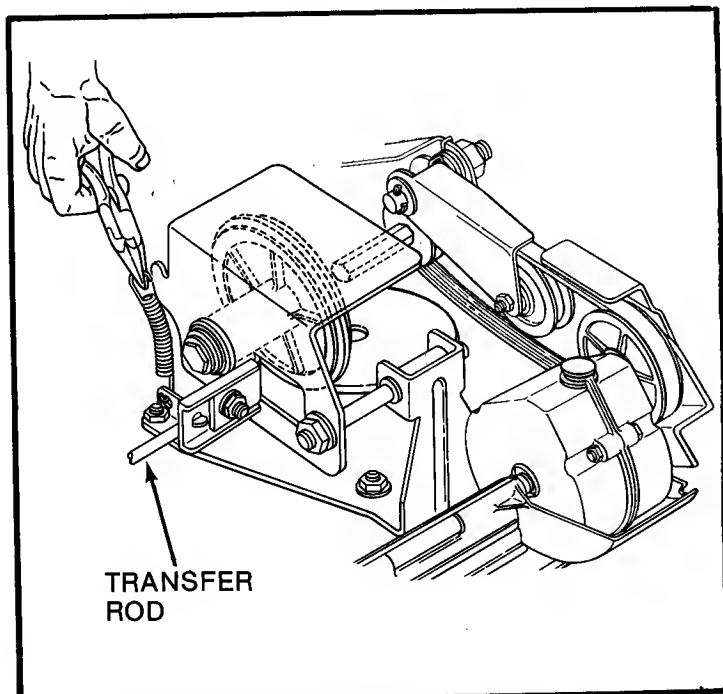
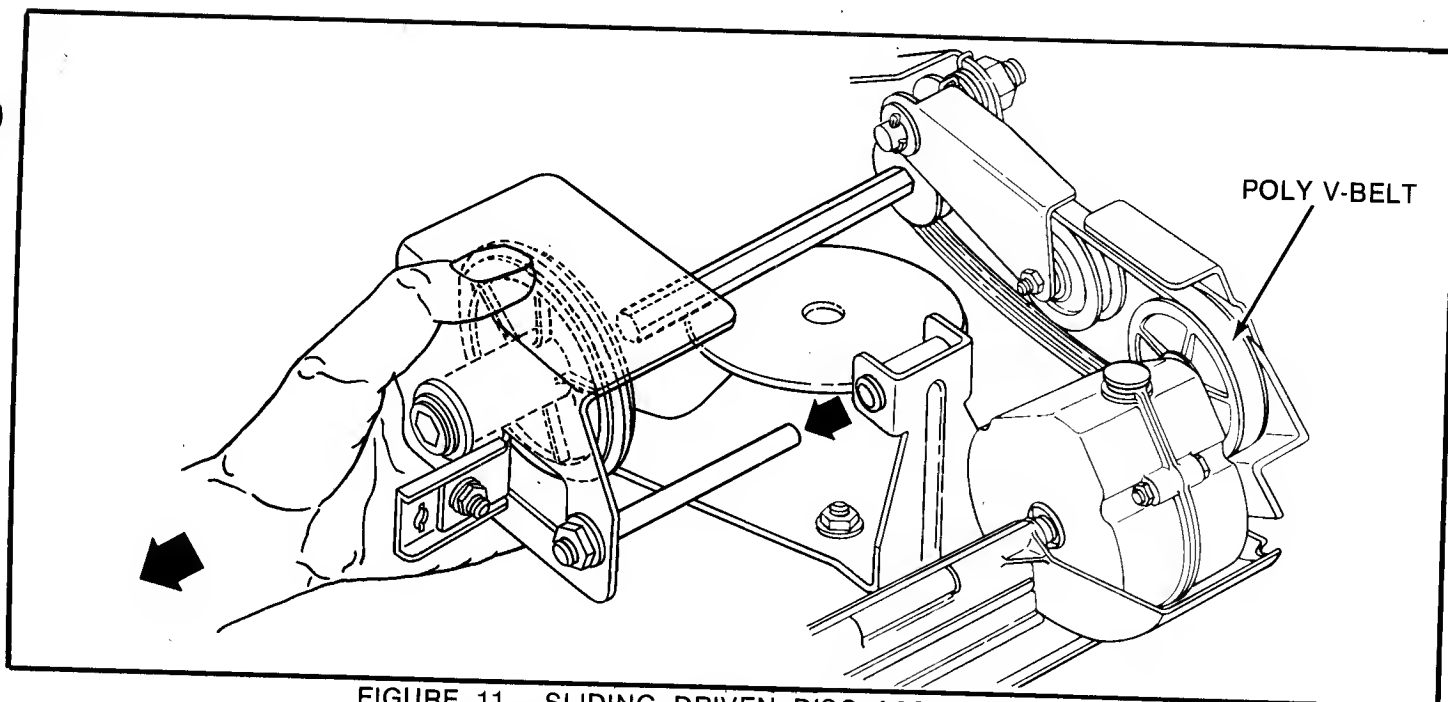

FIG 10 - UNHOOKING DRIVE SPRING
FIGURE 11 - SLIDING DRIVEN DISC ASSEMBLY OFF
If the mower does not pull properly with the wheel drive clutch engaged, check for the following: Grease on drive disc causing slippage, broken or disconnected drive assembly spring (see Figure 10), driven disc too worn to contact the drive disc properly, driven disc out of adjustment. This condition could also be caused by worn belts. If the belts are in good condition and the clutch is properly adjusted, service the drive system as follows:
**DRIVEN DISC REPLACEMENT:** If the rubber of driven disc is badly chunked or worn down to within  $1/16"$  of the metal rim, remove the driven disc assembly and replace the driven disc as follows: Remove the clip and detach the transfer rod from the speed control lever (Figure 10). Using a pair of needle nose pliers, unhook the drive spring and slide the driven disc assembly off as shown in Figure 11. Remove the five machine screws securing the rubber driven disc and separate the worn disc from the hub. Reverse this procedure to install the replacement disc and to reconnect the drive components.